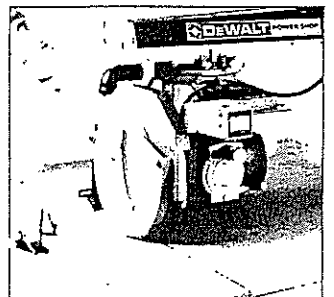
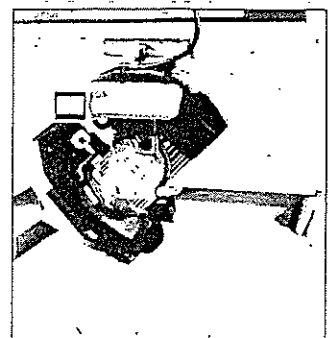

Fig. 31
Fig. 32
11.4 Ripping (Fig. 31)
- (iv) Revolve the motor 90° to the right for out-ripping on wide panels (Fig. 31) or 90° to the left for in-ripping narrower cuts (Fig. 32), positioning the fence accordingly (Note: Photo actually shows machine bevel-ripping).
11.5 Bevel Ripping (Fig. 32)